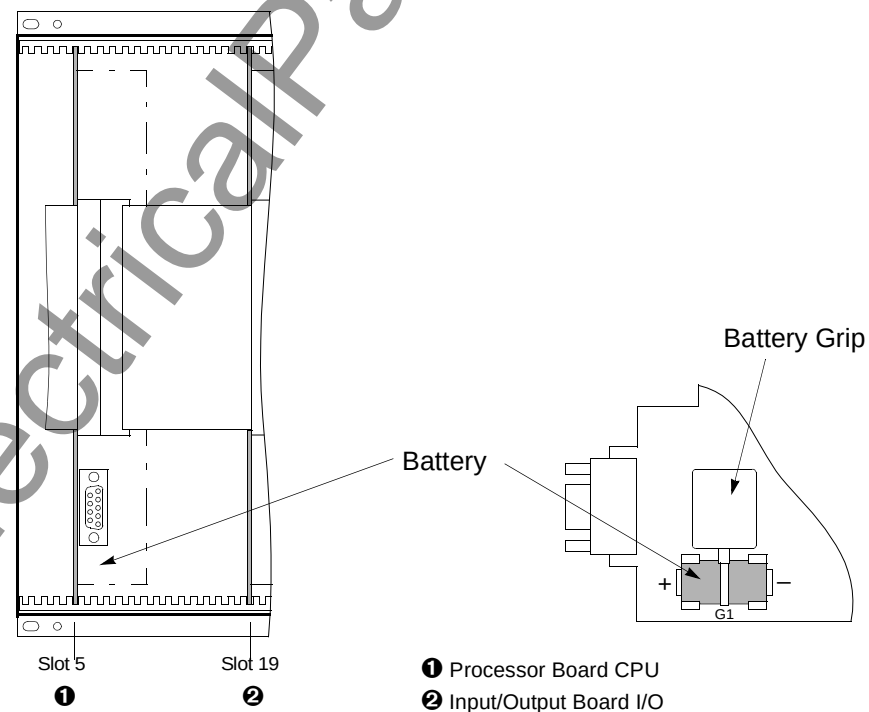

Figure 9-1 Front View without Front Panel – Position of Buffer Battery (simplified and reduced)
- ☐ The battery is located on the bottom-front side of the CPU (❶) board. See Figure 9-1.
- ☐ Remove the old battery from the snap-on connector using the plastic battery grip shown in Figure 9-1.
- ☐ Observing the polarity and firmly insert the new battery into the snap-on connector shown in Figure 9-1.
- ☐ Connect the ribbon-cable between the CPU (1) board and the front panel. Be especially careful not to bend any of the connector pins! Do not use any force! Be sure that the plug connectors latch.